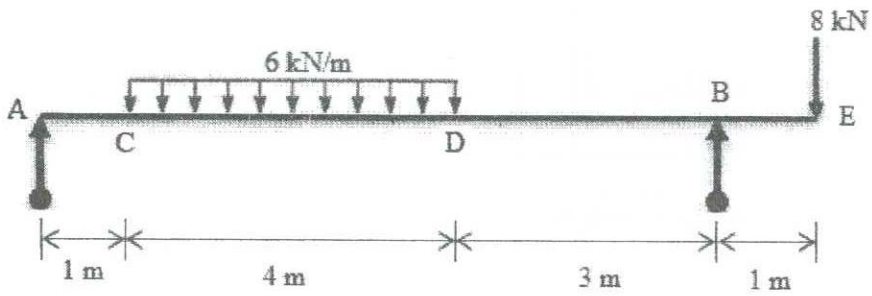

Fig. Q4
b) A simply supported beam has its supports 8 m apart at A and B as shown in Fig. Q4. It carries a uniformly distributed load of 6 kN/m between A and B starting from 1 m and ending at 5 m from the support A. The end B of the beam has an overhang of 1 m and at the free end a concentrated load of 8 kN is applied.